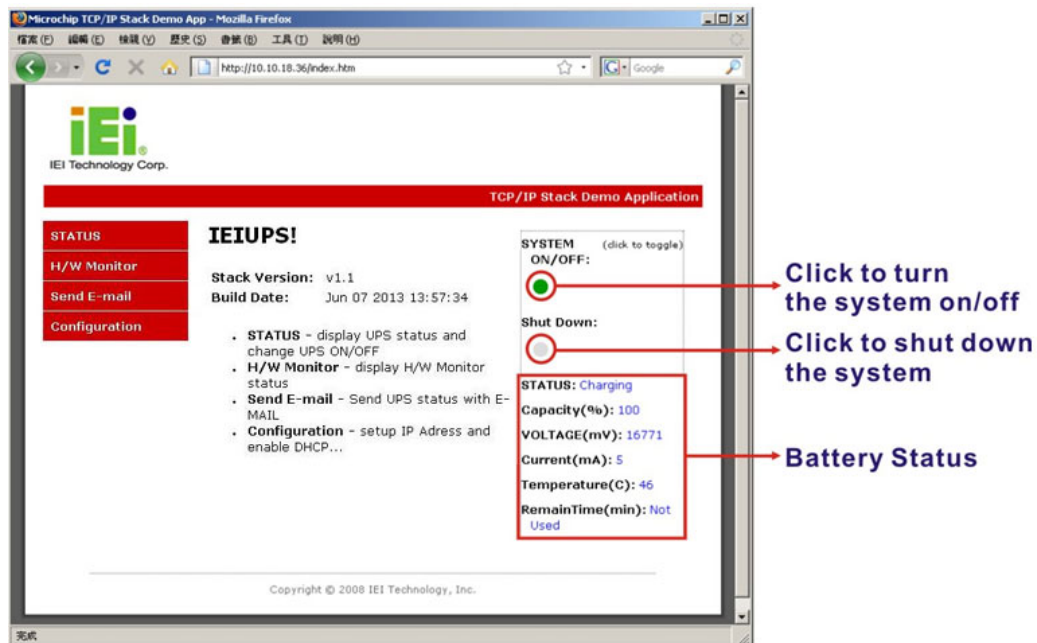

Figure 7-19: Remote Management Web Interface - Status
Step 5: Figure 7-19 shows in a web browser.